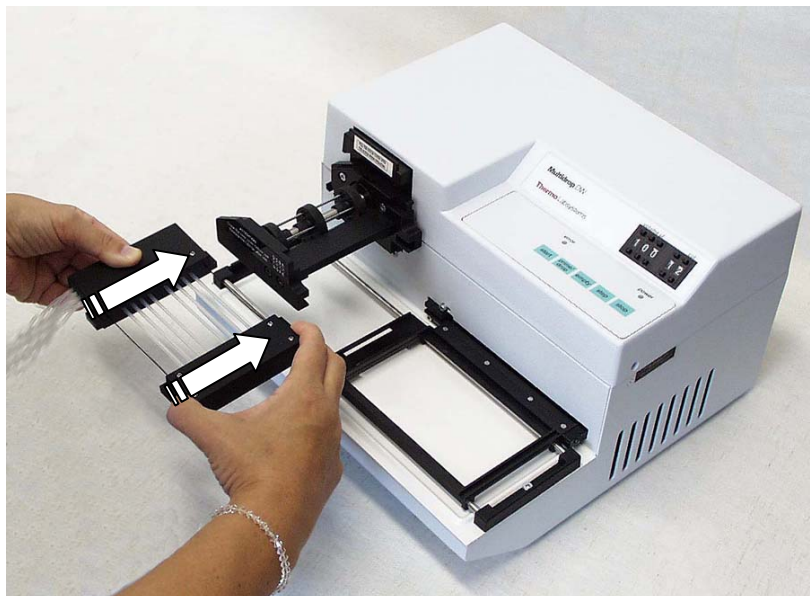

Fig. 6.1 Inserting the dispensing cassette
1. Take the lower part of the cassette into your right hand with the dispensing tips pointing down and the upper part into your left hand (*Fig. 6.1*).